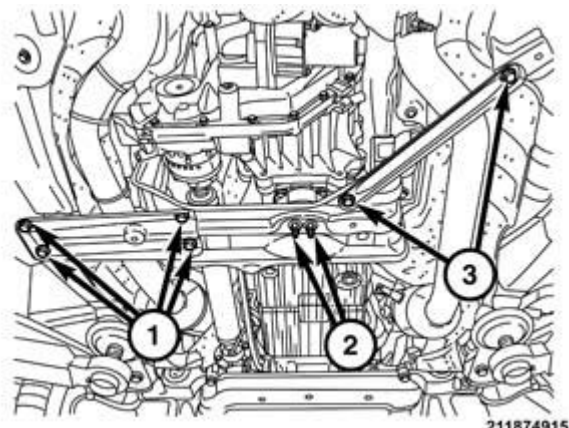

Figure 17 – Transmission Mount
38. Remove the transmission mount nuts (2) (Figure 17).
39. Remove the cross-member bolts (1 and 3) (Figure 17).
41. Mark a line across the front driveshaft Constant Velocity (CV) joints to companion flanges for installation reference.